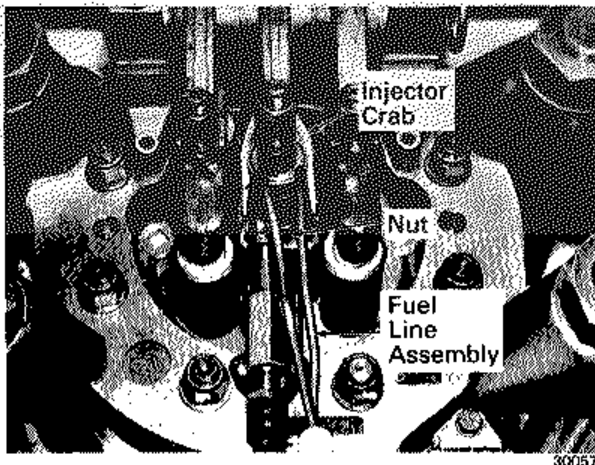

Fig. 5-3 - Fuel Line Assembly Removal
14. Remove the fuel line assembly, Fig. 5-3. Also remove the fuel line from the opposite cylinder on the opposite bank of the engine. Care should be taken that the spherical seats on fuel line are not scratched or nicked as this could cause leakage.
14. Remove the fuel line assembly, Fig. 5-3. Also remove the fuel line from the opposite cylinder on the opposite bank of the engine. Care should be taken that the spherical seats on the fuel line are not scratched or nicked as this could cause leakage.